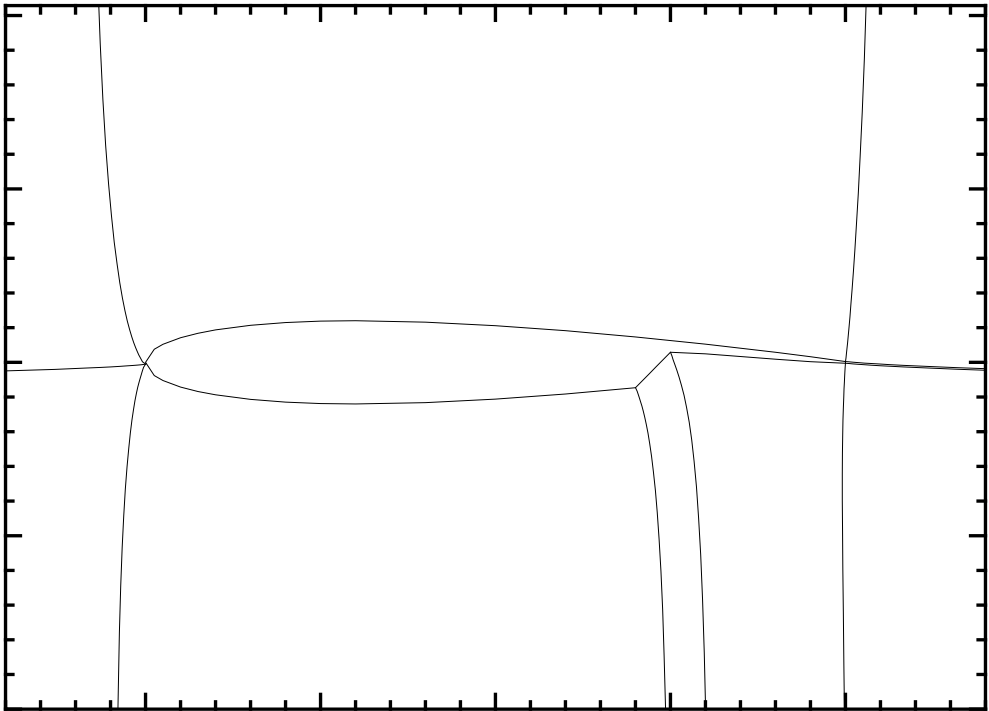

Figure 6.23: Domain decomposition for Test Case 9
3. Domain decomposition plot (figure 6.23)